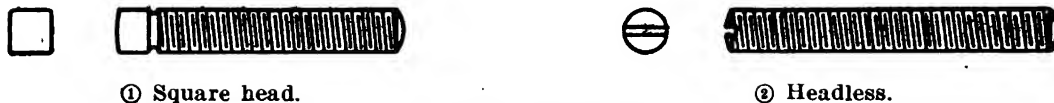

FIGURE 33.—Set screws.
**32. Set screws.**—Another screw used a great deal in radio construction is the set screw. Its purpose is to hold gears or knobs to rotating shafts. The size depends upon the amount of holding surface required and its length varies. There are mainly two types, the square head and headless as shown by figure 33.